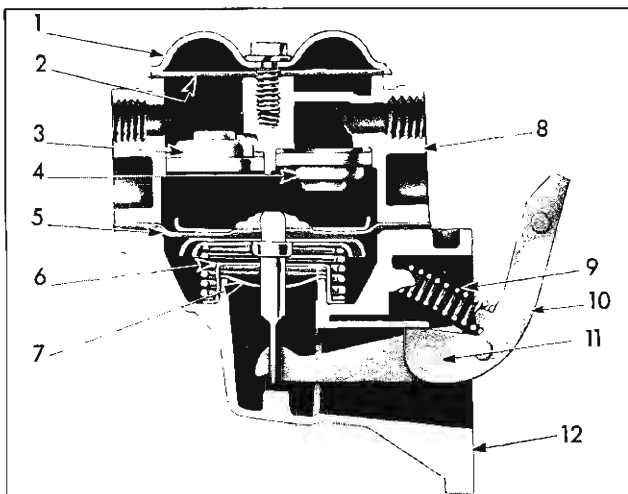

Fig. 96—Six Cylinder Engine Fuel Pump
4. If either valve was removed from the valve body and fuel cover, install by placing gasket in recess and pressing valve into place. See position of valves in Figure 96. Secure valve assembly by staking cover metal in four places around valve.